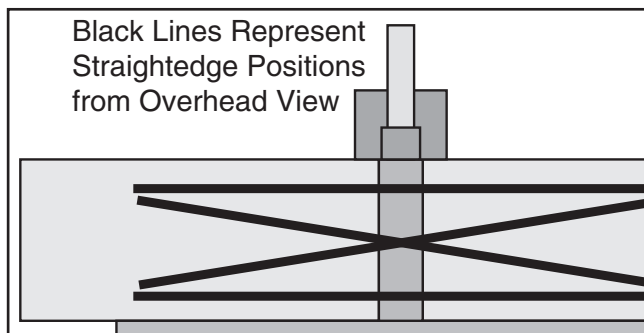

Figure 52. Straightedge positions for checking infeed/outfeed table parallelism.
3. Place the straightedge in the positions shown in **Figure 52**. In each position, the straightedge should sit flat against both the outfeed table and the infeed table.
3. Place the straightedge in one of the positions shown in **Figure 52**.